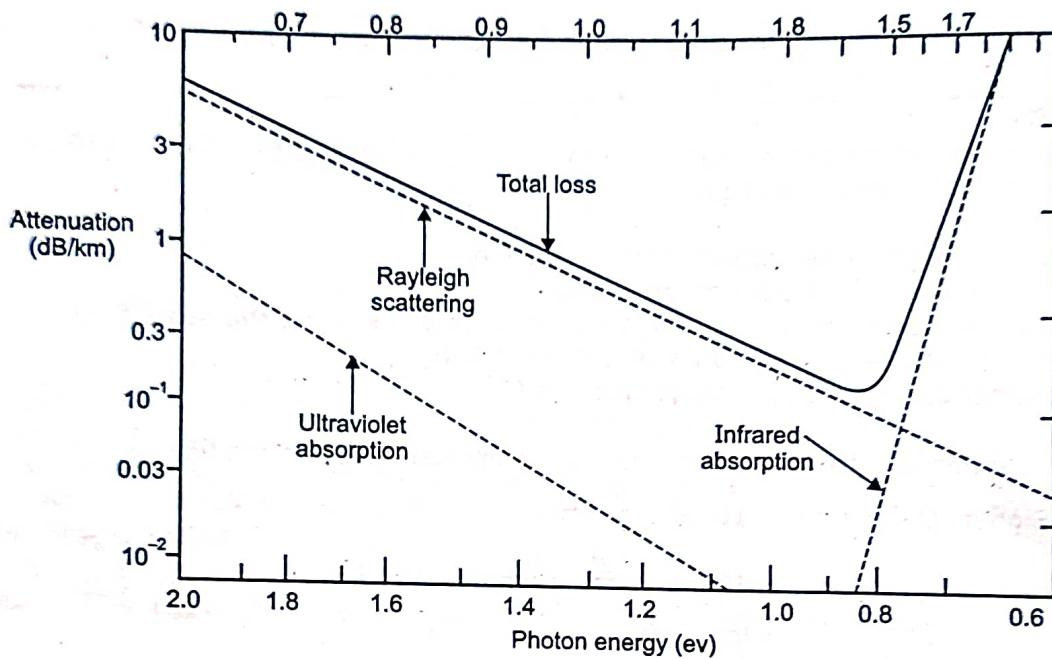

Fig. 2.17: The Attenuation Spectra for the Intrinsic Loss Mechanism in pure $\text{GeO}_2 - \text{SiO}_2$ Glass
- However, it has two major intrinsic absorption mechanisms at optical wavelengths which leave a low intrinsic absorption window over the 0.8 to 1.7 μm wavelength range shown in Fig. 2.17.
- Fig. 2.17 shows a possible optical attenuation against wavelength characteristics for absolutely pure glass.